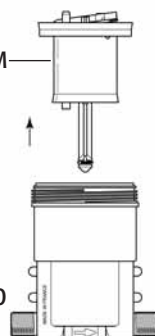

Fig. 20
- Remove the motor piston (Fig. 20-M) by pulling it up.